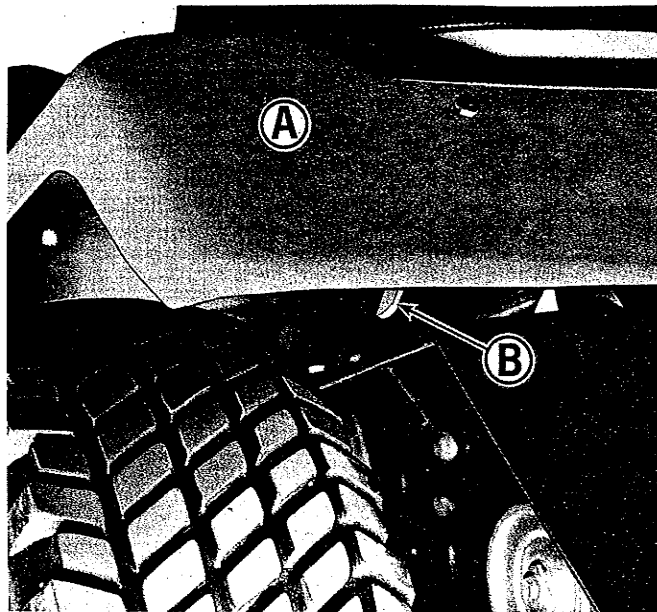

Figure 8. Seat deck release at front of seat deck.
See figure 8. The tractor seat deck (A) is hinged at the back. To raise the seat deck, reach under it from each side and pull the two locking levers (B) to the outside. As you hold the